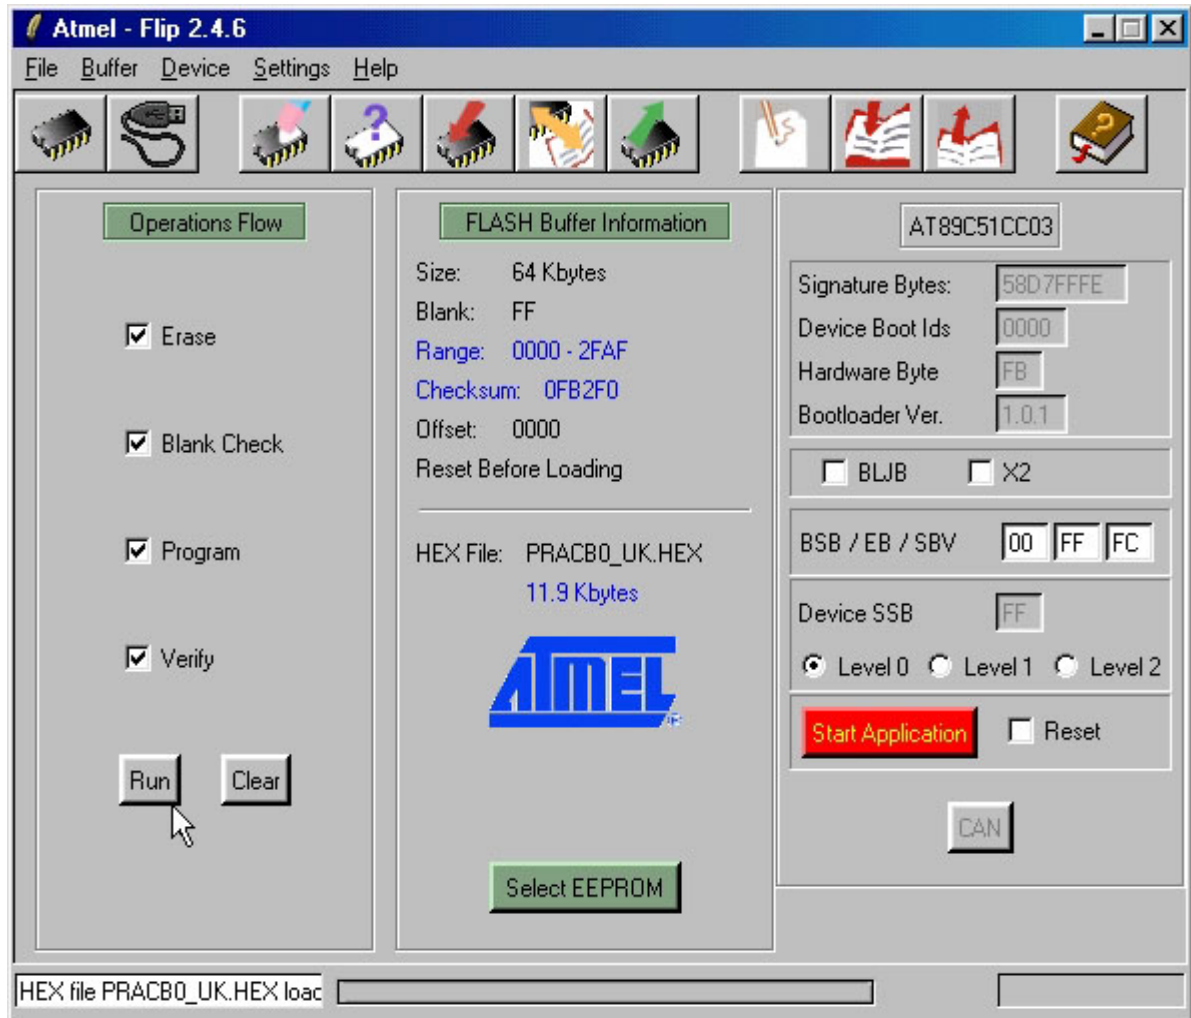

FIGURE 21: FLIP SETTINGS WINDOWS (3 OF 3)
- C11) Select all the check boxes in the frame *Operations Flow* as in figure 21, in order to let **FLIP** execute in sequence the four operations: erase, blank check, program and verify.
- C12) At this point make sure that main windows of **FLIP** looks like figure 21; in details the data in the *Size*, *BLJB*, *X2*, *Device SSB* and *BSB / EB / SBV* boxes must exactly match.